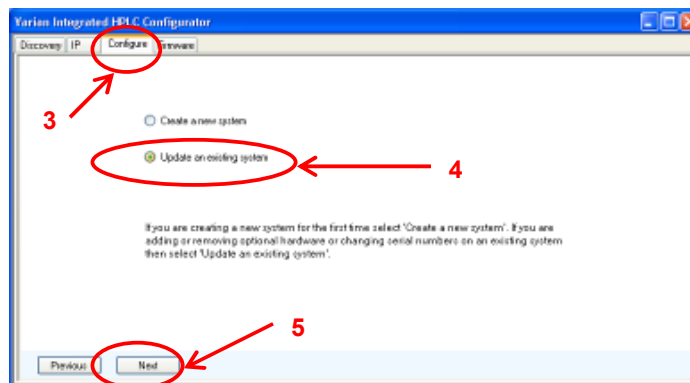

Figure 21: Configure page of the Service Configurator
3. Once the system has been selected you will be able to choose the **Configure Tab** (3). Select the **Update an existing system** option (4), and then select **next** (5) as shown in Figure 21.